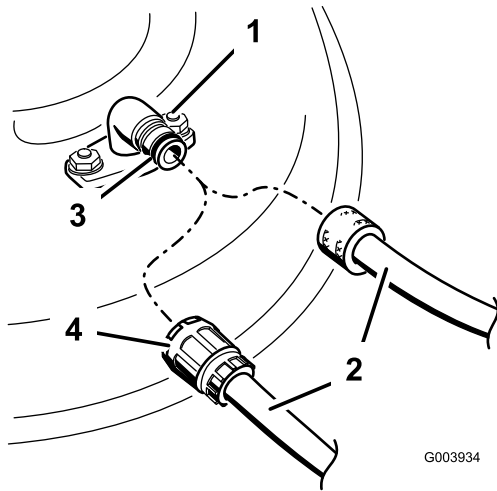

Figure 28
4. Attach a hose to the washout fitting, and turn the water on high (Figure 28).